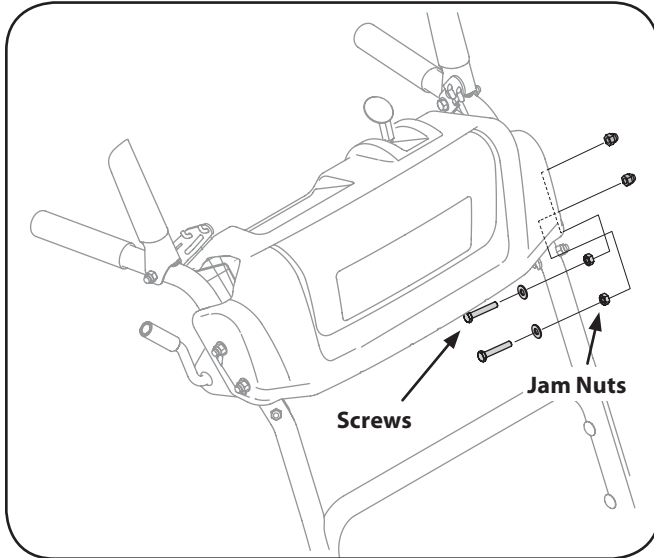

Figure 6
4. Position the rod assembly [C] between the metal panel and the plastic panel cover while aligning holes in rod assembly with holes in the panels and securing with the following hardware. See Fig. 5 and Fig. 6.:
1. Remove the following from the left side of the upper handle. See Fig. 6.